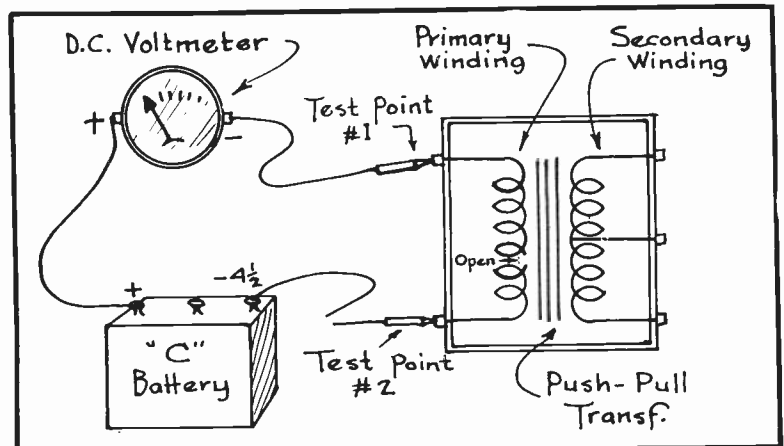

Fig. 1
1. - TO DETERMINE WHETHER OR NOT A WINDING SUCH AS USED IN AN A.F. TRANSFORMER, R.F. TRANSFORMER, CHOKE ETC. IS COMPLETE OR NOT PROCEED AS ILLUSTRATED IN FIG. 1, THAT IS, CONNECT A $4\frac{1}{2}$ VOLT "C" BATTERY IN SERIES WITH A PAIR OF TEST LEADS AND A D.C. VOLTMETER HAVING A RANGE OF 0-10 VOLTS.
2. - TOUCH THE TWO TEST POINTS TO THE TWO TERMINALS ACROSS WHICH THE WINDING UNDER TEST IS CONNECTED. IF THE WINDING IN QUESTION IS OPEN CIRCUITED AS INDICATED IN FIG. 1, THEN THE VOLTMETER WILL OFFER A ZERO READING.
1.- THE METHOD OF CHECKING A CONDENSER SO AS TO DETERMINE WHETHER IT IS SHORTED ("BURNED OUT") OR NOT IS ILLUSTRATED IN FIG. 2. HERE THE SAME TESTING EQUIPMENT IS EMPLOYED AS HAS ALREADY BEEN DESCRIBED RELATIVE TO FIG. 1.